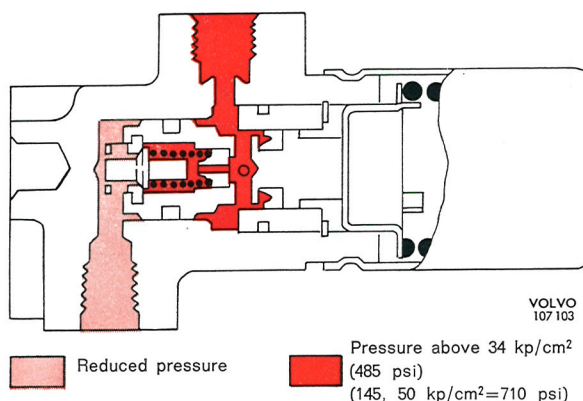

Fig. 5-42. Reducing action
With continued increase in pressure in the master cylinder and front wheel cylinders, the hydraulic pressure in cylinder (5) moves the piston to the left so that the valve rod comes up against its stop and opens the valve, this causing the pressure in cylinder (11) to increase. Due to the larger pressure surface in this cylinder, the plunger is moved to the right again and the valve closes. In this way, the piston assumes a position of balances and the outgoing pressure from the brake valve will be lower than the incoming pressure, see Fig. 5-42. The difference in these pressures is determined by the different areas and spring tension.